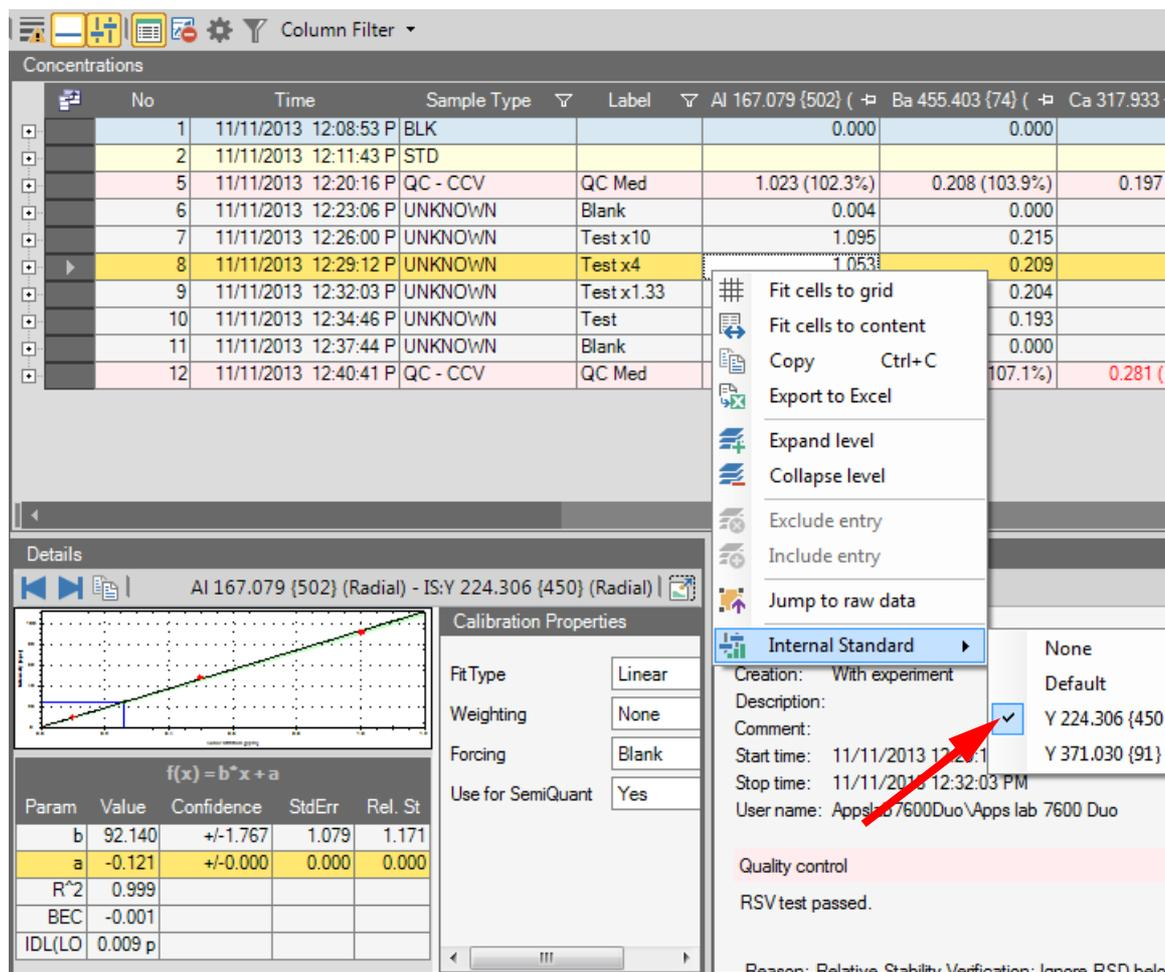

Figure 10-40. Shortcut menu for Internal Standard
- Right-click the concentration cell of an UNKNOWN or QC sample to open the shortcut menu, see Figure 10-40.
- At the same time you will see the change made in the Details view of the calibration curve for that analysis, see the red arrow on Figure 10-40, where the element and its corresponding IS are shown.